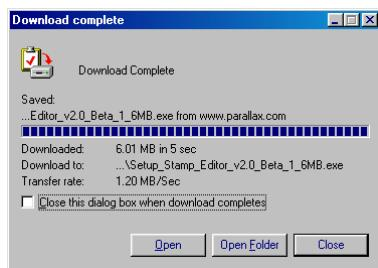

Figure 1-16
- ✓ If you downloaded the BASIC Stamp Editor Installer from the Internet, click the *Open* button on the Download Complete window shown in Figure 1-16.